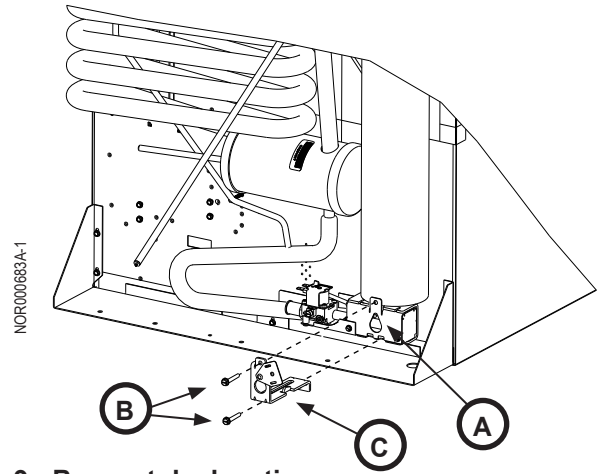

Fig. 9 - Burner tube location
2. Touch and hold the ON/OFF button (  ) for one (1) second to turn the refrigerator off.
4. Disconnect the two (2) white wires from the gas train assembly (Fig. 9, A).
**⚠ WARNING** To avoid possible propane gas leaks, always use two (2) wrenches to loosen and tighten the gas supply line at the gas train assembly.
6. Remove the two (2) screws (Fig. 9, B) that attach the gas train support bracket/door assembly (Fig. 9, C) to the cooling unit.
12. Connect the two (2) white wires to the gas valve of the gas train assembly.